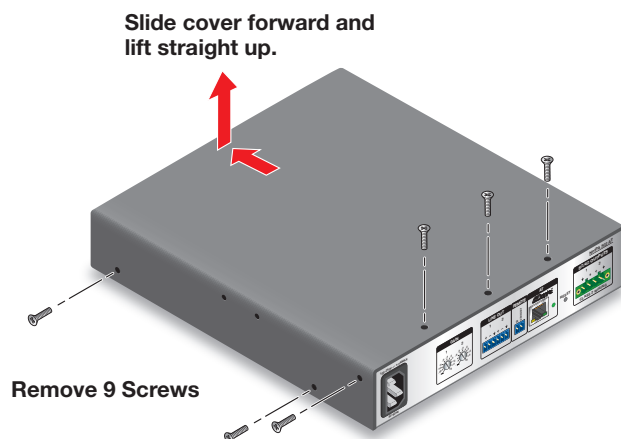

Figure 36. Remove the Top Cover
2. Remove the nine cover screws that secure the top enclosure cover to the NetPA AT. Three screws on top and three screws on each side (see figure 36).